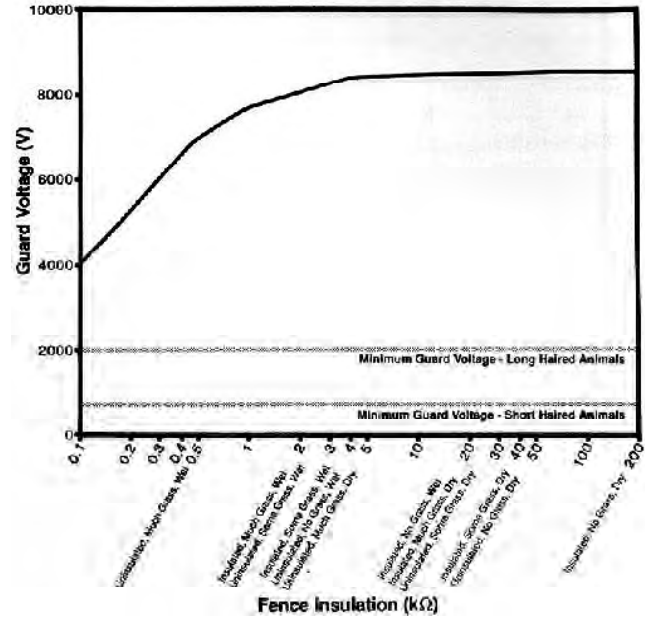

FIGURE 12. Guard Voltage for a 3.3 mi (5.4 km) Single Wire Fence.
**Shock Delivery:** FIGURES 12 and 13 show guard voltage outputs of the BEE 8105C for 3.3 and 10 mi (5.4 and 16 km) lengths of single wire fence over a range of insulation resistances.
On a 3.3 mi (5.4 km) fence (FIGURE 12), guard voltage output varied from 8560 V for a well-insulated, grass-free, dry fence to 4030 V for an uninsulated wet fence with considerable grass touching the charged wire.
As can be seen from FIGURES 12 and 13, plant growth